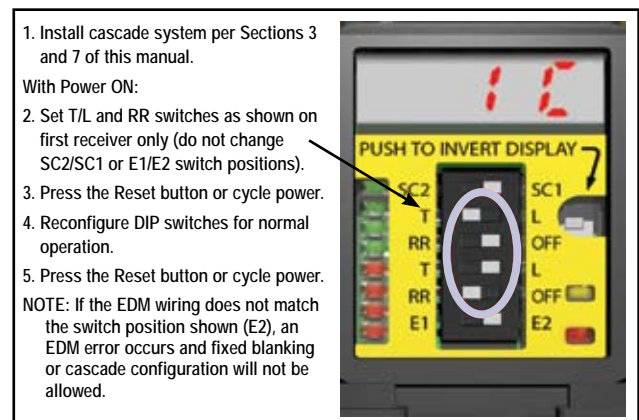

Figure 7-7. DIP switch configuration to enable cascade installation
2. Set the third and fourth DIP switches (the second T/L and RR) both to the right (L and OFF position); see Figure 7-7.